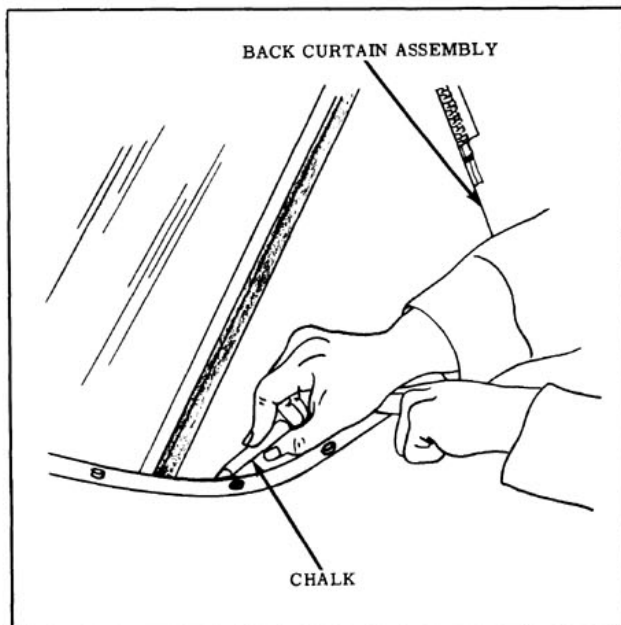

Fig. 16-140 Marking Back Curtain
17. Where required, place reference chalk mark on outer surface of back curtain along pinchweld finishing molding. Readjust back curtain assembly as required. (Fig. 16-140)